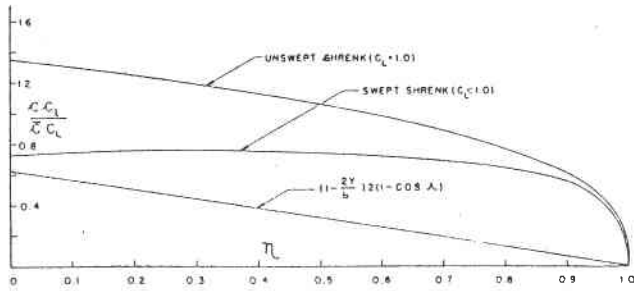

FIG. 1.
Eq. (1) is demonstrated in Fig. 1, where it is seen that the second term represents a triangular loading diminution that is largest inboard. Subtraction of this loading from the unswept loading yields a new wing C_L which may be found by integrating the curve. Thus